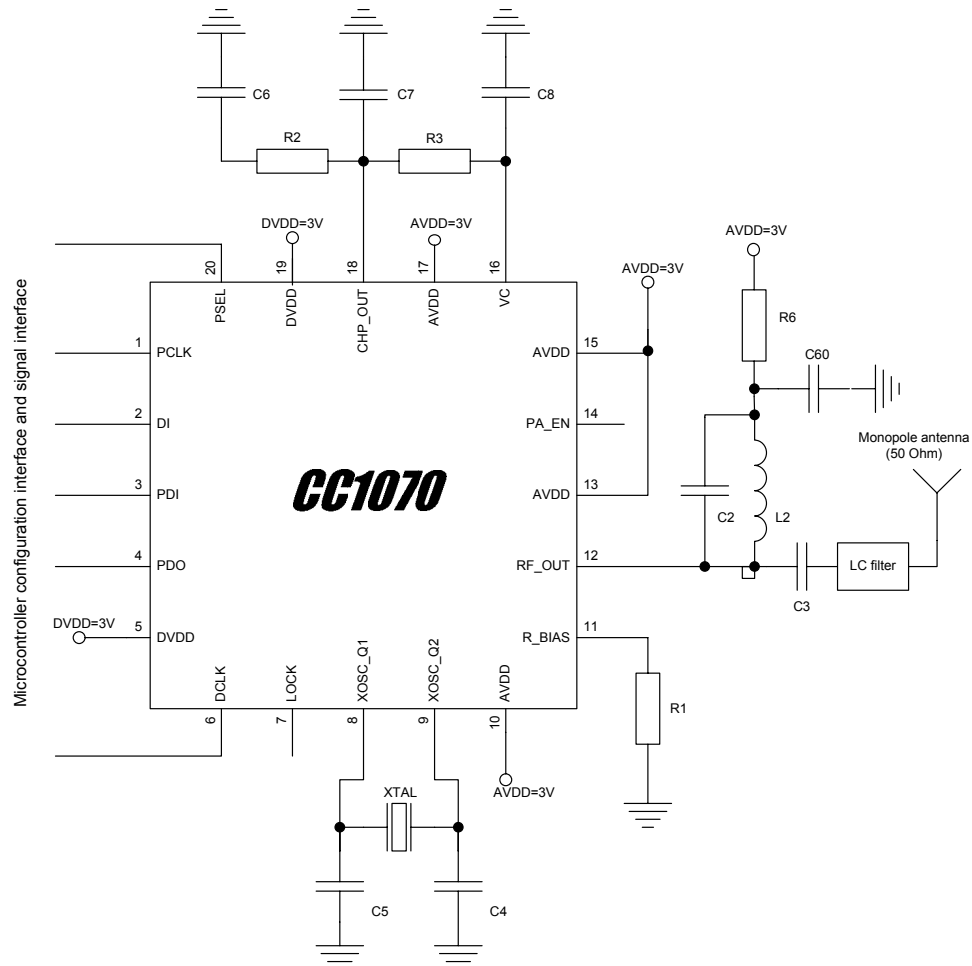

Figure 3. Typical application and test circuit (power supply decoupling not shown)
Very few external components are required for the operation of CC1070. A typical application circuit is shown in Figure 3. The external components are described in Table 9 and values are given in Table 10.
**Table 10. Bill of materials for the application circuit in Figure 3**